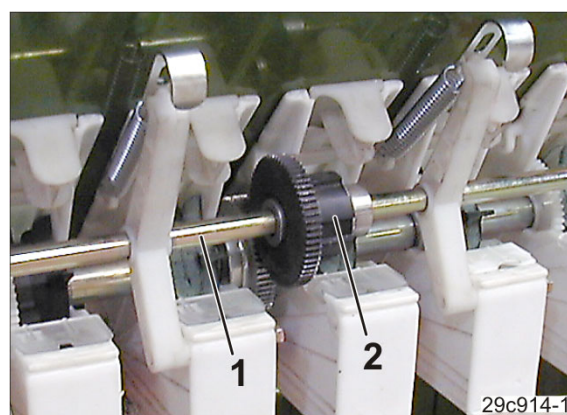

Fig. 104
The lay shaft (Fig. 104/1) is driven by the seeding shaft via a coupling (Fig. 104/2).
The lay shaft coupling (Fig. 104/2) can be actuated
- when the coupling (Fig. 104/2) is actuated
- the lay shaft (Fig. 104/1), which drives the tramline seed metering wheels, is immobilised